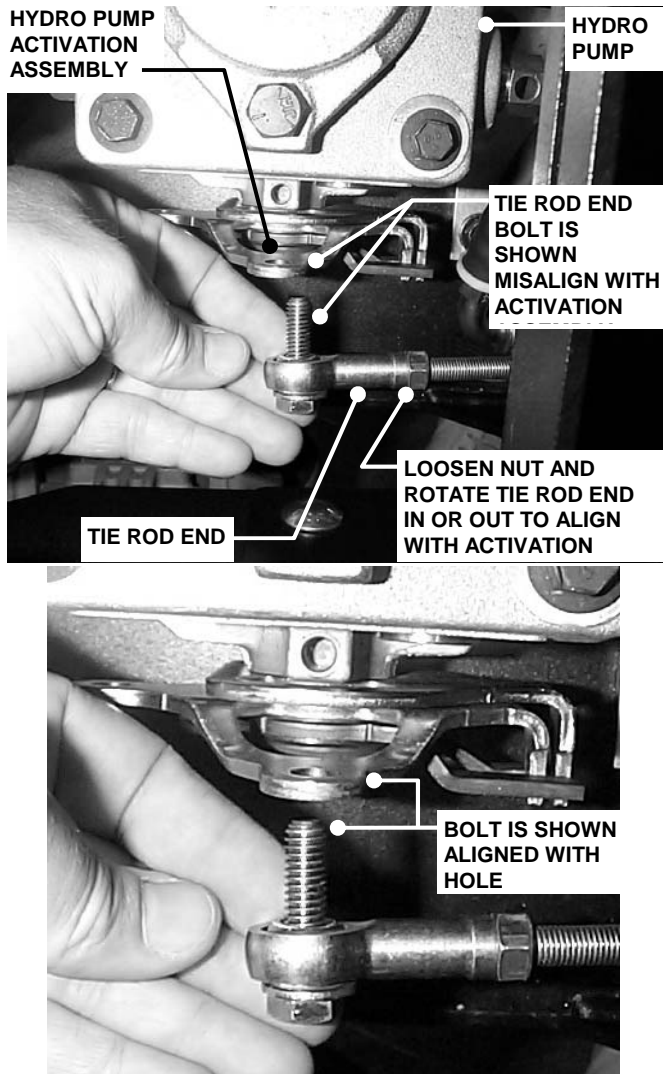

FIGURE 5.4
12. With motion control levers remaining in the neutral lock position, See Figure 3.7, hold connecting rod up to the activation assembly and check length of rod. Tie rod end bolt must align with the activation assembly. If bolt is not aligned with the activation assembly, adjust tie rod. Loosen jam nut that secures tie rod. Rotate tie rod in or out to align with hole in activation assembly. Repeat step for other hydro pump. See Figure 5.4.